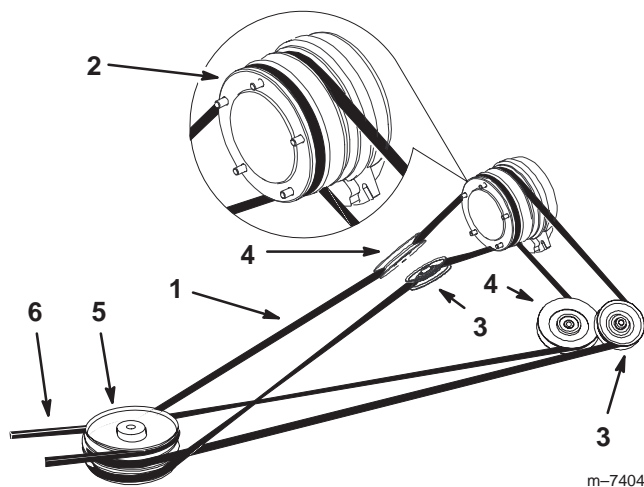

Figure 74
4. Pull on the spring loaded idler pulley to loosen the belt tension (Fig. 74).
7. Install the new drive belt around the clutch pulley, the adjustable idler pulleys, the spring loaded idler pulley, and the front three stacked pulleys (Fig. 74).